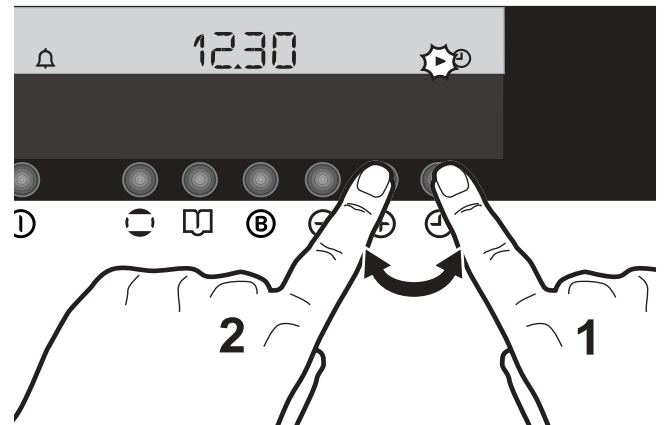

Fig. 2
1. Press the "Time Function Button" ⌚. While symbol ► flashes near the "Clock Symbol" ⌚, set the current time of day pressing buttons ◀ or ▶ (Fig. 2). Once you have set the time, the symbol ► keeps flashing for 5 seconds and then disappears. This means that the setting has been stored in the Electronic Control memory.